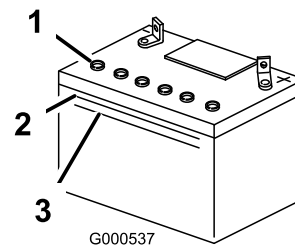

Figure 43
1. Look at the side of the battery. The electrolyte must be up to the **upper** line (Figure 43). Do not allow the electrolyte to fall below the Lower line (Figure 43).
3. Remove the vent caps from the battery (Figure 43).
4. Slowly pour distilled water into each battery cell until the electrolyte level is up to the Upper line (Figure 43) on the battery case.
5. Wait five to ten minutes after filling the battery cells. Add distilled water, if necessary, until the electrolyte level is up to the Upper line (Figure 43) on the battery case.